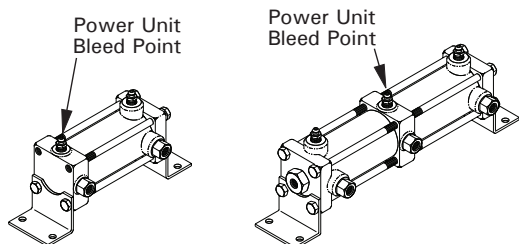

FIGURE 23
7. Activate the 691 System. Open bleeder screw 1/4 turn. See Figure 23. Close bleeder screw when a steady stream of fluid is present.